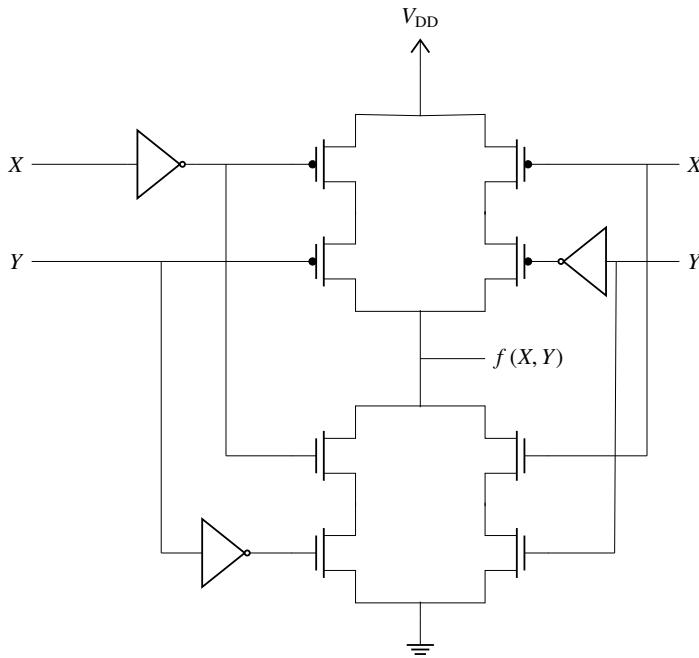

Fig. 3.22
39. The logic function  $f(X, Y)$  realised by the given circuit in Fig. 3.22 is